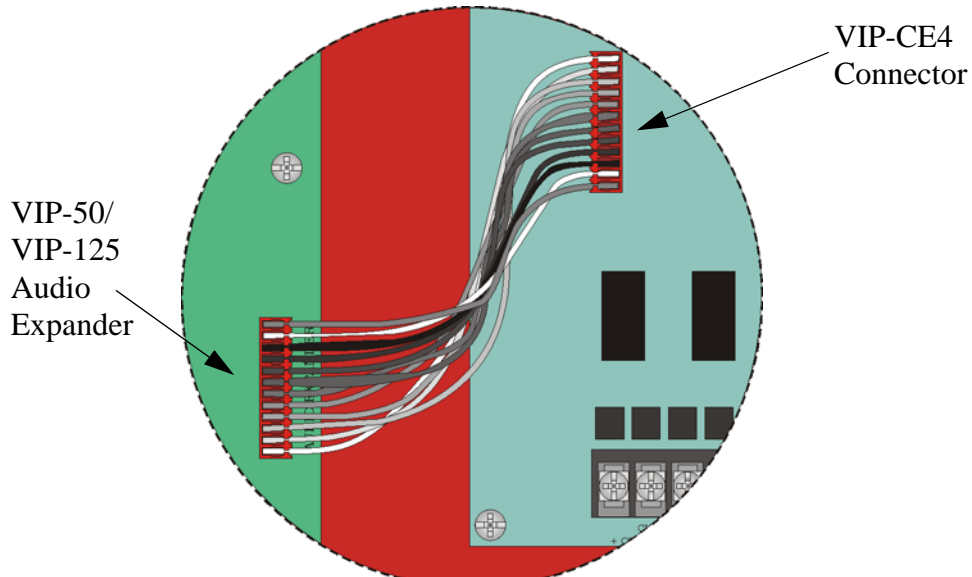

Figure 3-37 Audio Expander Wire Harness Connections
2. Connect the audio expander harness (PN 130426) from the connector labeled “Audio Expander” on the VIP-50/VIP-125 to the connector on the VIP-CE4 as shown in Figure 3-37.